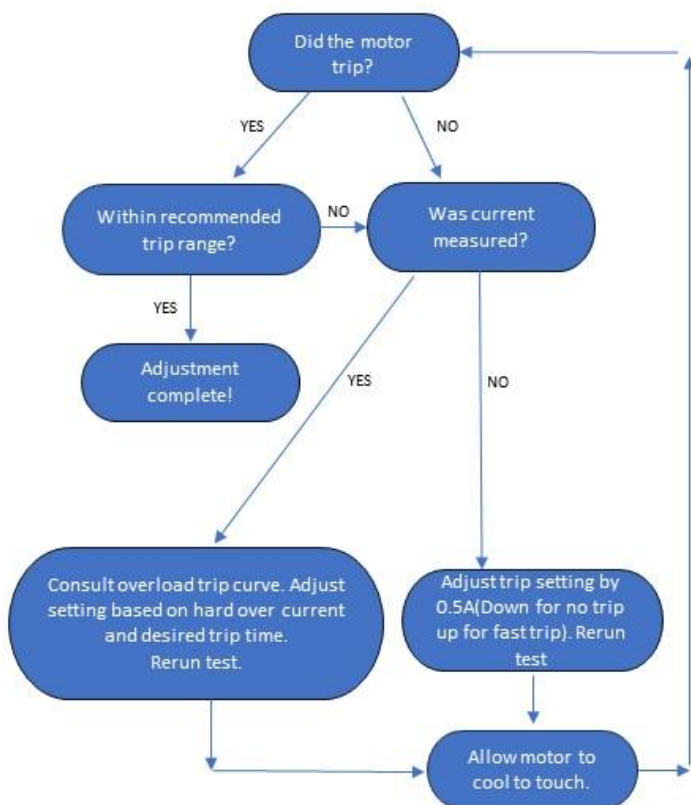

Figure 10: Overload adjustment evaluation
9. Refer to Figure 10 for interpreting and acting on test results. Ensure the motor cools down to the touch before running subsequent tests.